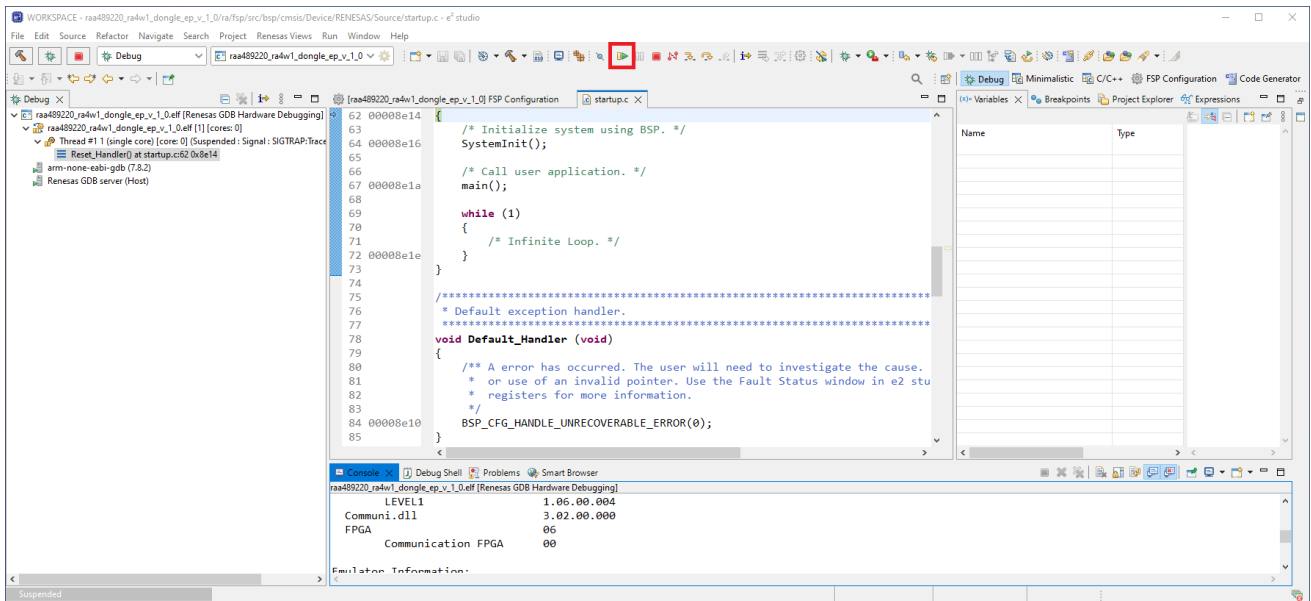

Figure 6. Generation of Additional Project Files
- From the top menu, choose your project and select the **Build All** button. Next, open **Run** from top menu and select **Debug As > 3 Renesas GDB Hardware Debugging**. The IDE changes automatically to a debug perspective, and a debug session is started (Figure 6). Click the **Resume** button twice to run the code.